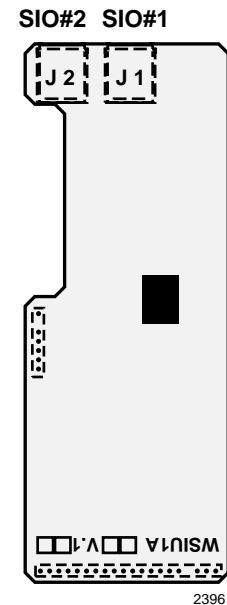

Figure 1-14 WSIU Printed Circuit Board
1. Make sure that the power supply switch is OFF. See Figure 1-14.